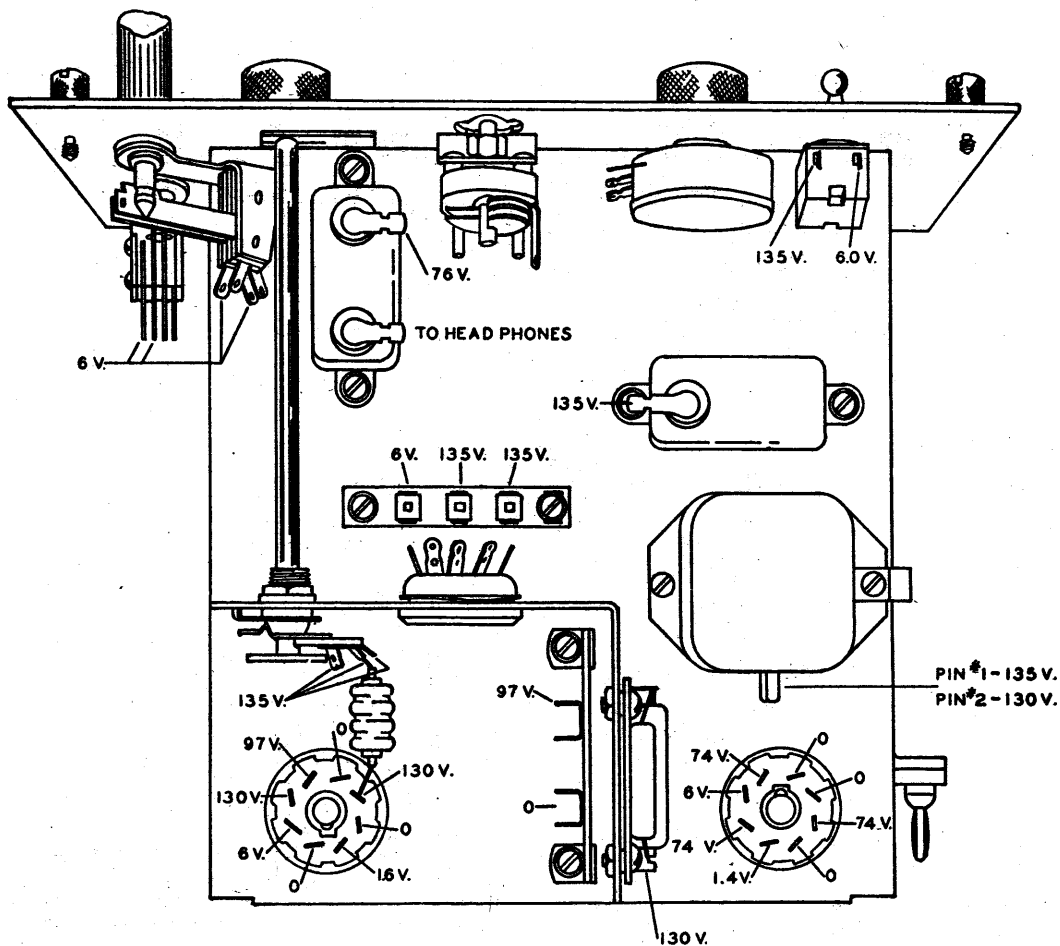

Figure 5-3. Frequency Meters BC-221-P and BC-221-T—Tube Operating Voltages
b. FREQUENCY METERS BC-221-P AND BC-221-T.—See figure 5-3.